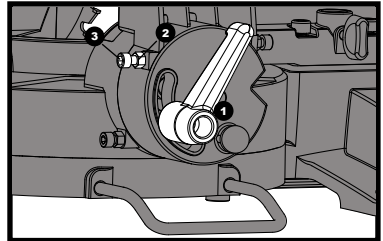

Fig 19
- 1) Loosen the bevel lock handle (1) and tilt the cutting head completely to the left.
- 3) If the blade is not at 45° to the mitre table, tilt the cutting arm to the right, loosen the locknut (2) on the bevel angle adjustment bolt (3) and use an hex key to adjust the stop bolt (3) depth in or out to increase or decrease the bevel angle.
- 6) Tighten bevel lock handle (1) and locknut (2) when alignment is achieved. (See fig. 19)